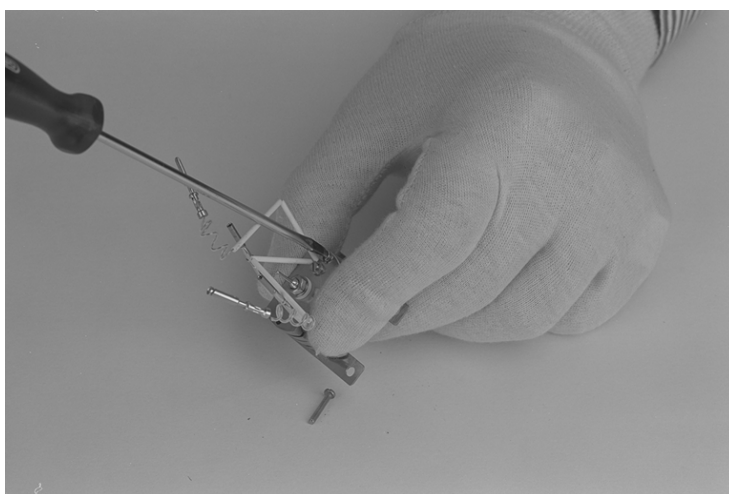

Figure 4-15. Separating the ion block from the heater block
8. Undo the two remaining screws to separate the ion block from the heater block (see Figure 4-15).